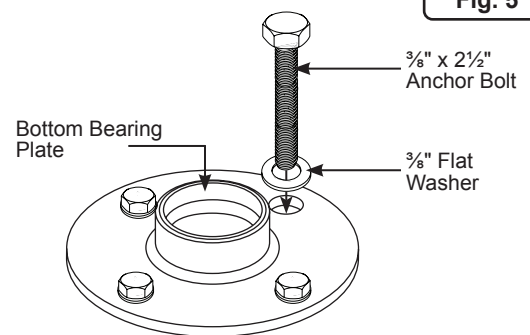

Fig. 5
5. Place the bottom bearing plate back over the anchor holes and anchor it with four (4)  $\frac{3}{8}$ " x 2 $\frac{1}{2}$ " anchor bolts and flat washers (Figure 5).